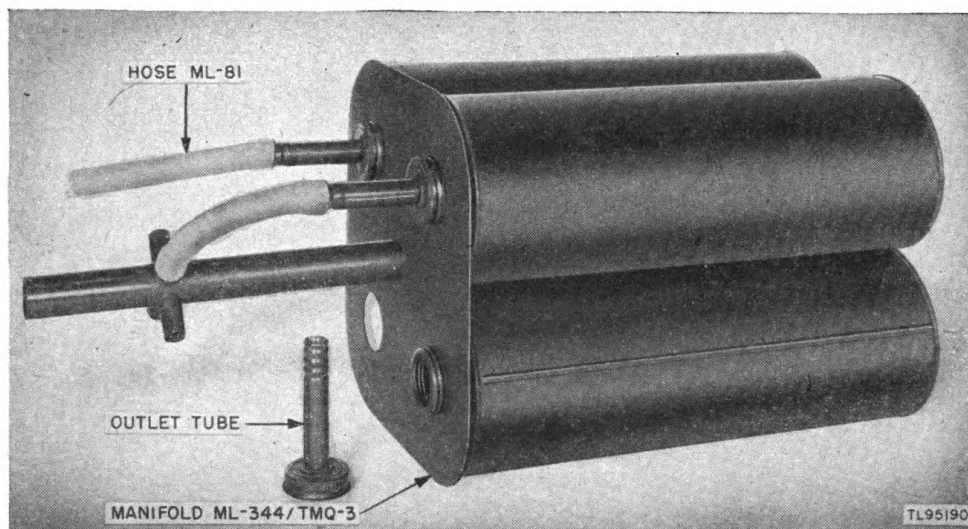

Figure 9. Assembling generators on manifold.
b. HYDROGEN GENERATOR SET AN/TMQ-3 (fig. 9). Four hydrogen generators, the manifold, and the four 6-inch lengths of Hose ML-81 arrive fully assembled in the case. To reassemble, however, when necessary, proceed as follows:
(1) Place the screw necks of each of four generator bodies through the holes in the plate of Manifold ML-344/TMQ-3.
(2) Assemble the outlet tubes of the hydrogen generators on the screw necks so that the plate of the manifold is held between the generator body and the outlet tube of each generator. Tighten the outlet tube on the screw neck, and be sure that the outlet tube does not clamp against the plate.
(3) Slip one end of a 6-inch length of Hose ML-81 on the outlet tube of a generator and the other end on the branch of the manifold nearest the outlet tube. Repeat with the other three lengths of the hose and with the remaining three generators.